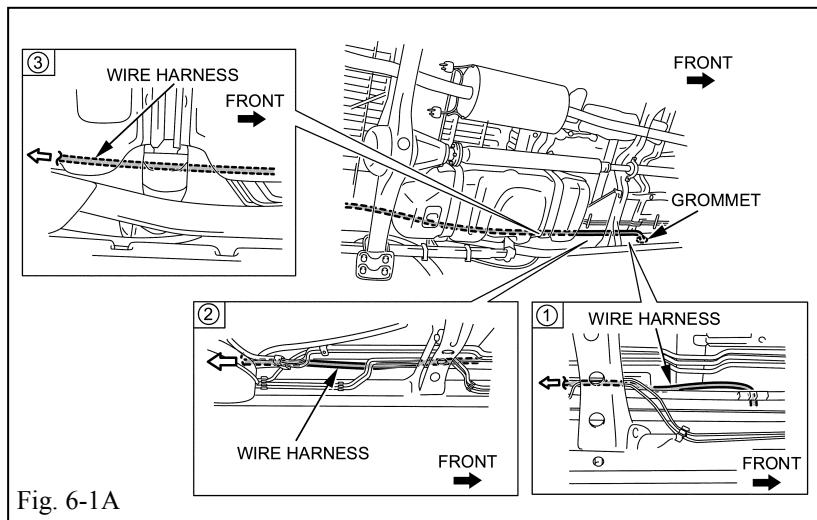
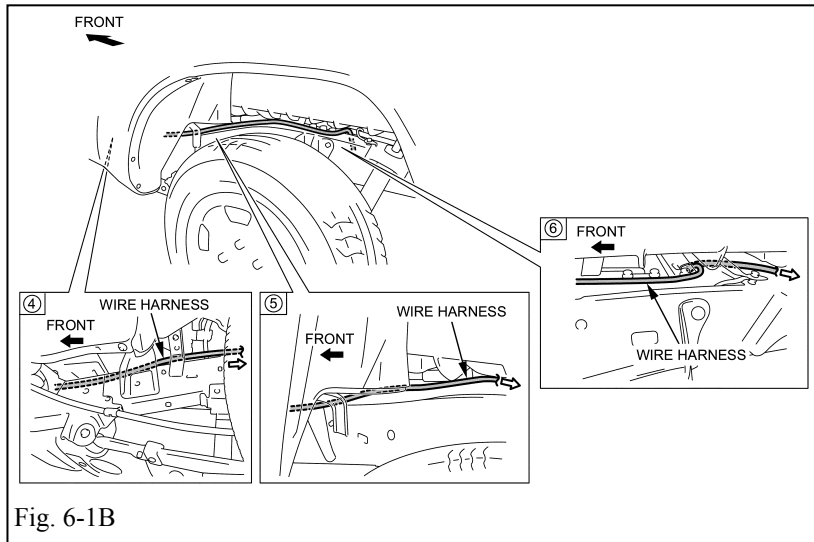

Fig. 6-1A
Fig. 6-1B
- (1) Route the 4-pin wire harness as shown in each figure. (Fig. 6-1A) (Fig. 6-1B)